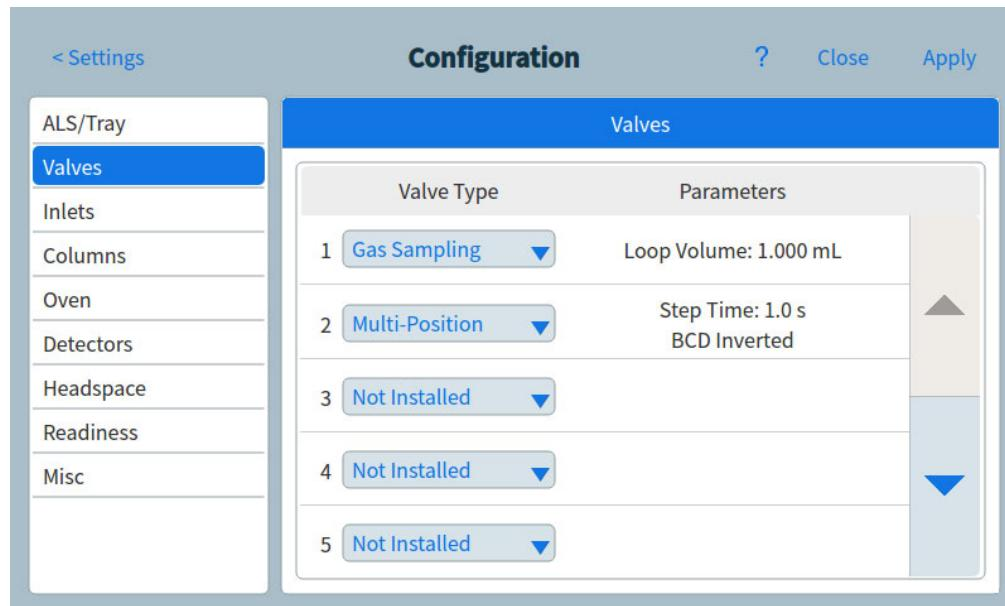

Figure 57. Valves page
- 1 Select **Settings > Configuration > Valves**. See **Figure 57**.